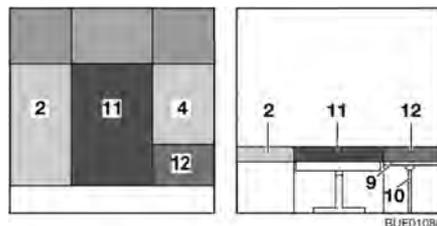

Fig. 91 After conversion
- Place the additional cushion (Fig. 91,11) between the seat cushions (Fig. 91,2 and 4).
- Lay the additional cushion (Fig. 91,12) on the bedding box extension (Fig. 91,9).